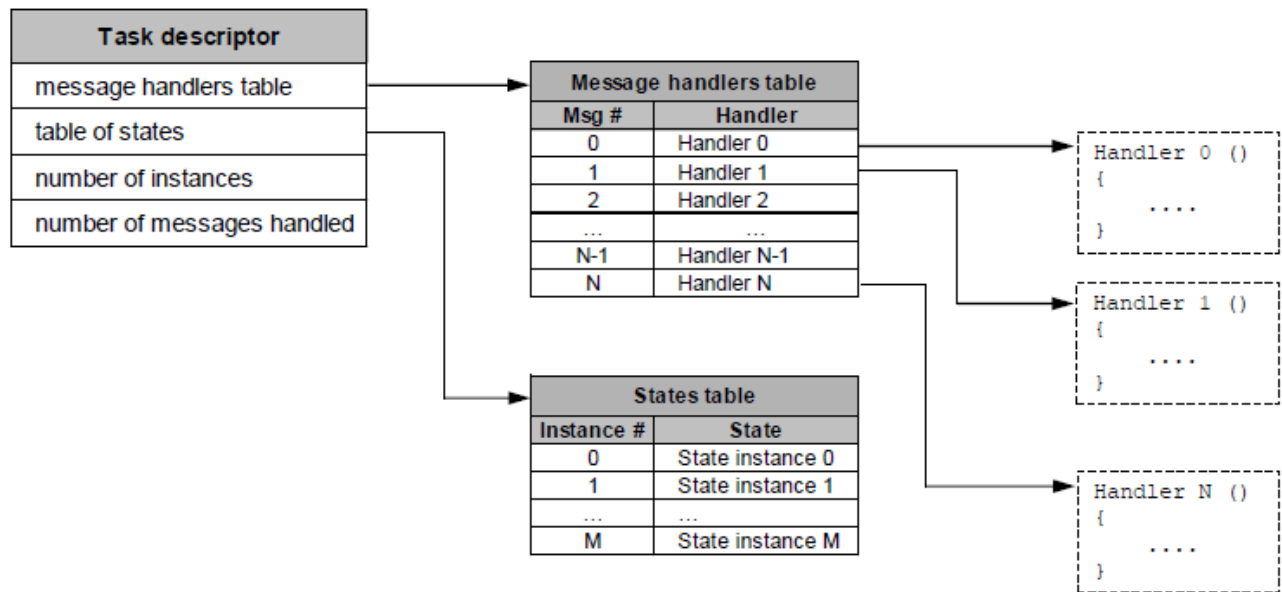

Figure 7. Task Descriptor Construction
- Its task descriptor, which is a structure as shown in the "Task Descriptor Construction" figure (Figure 7) containing all the information about the task: